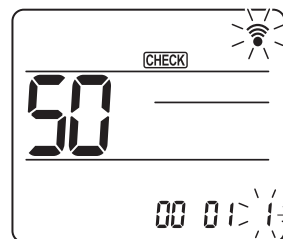

Fig. 6-17
(4) Selecting the setting number
Use the [UP] button to change the Setting number (C). (Fig. 6-17)
(5) To select multiple functions continuously
- Repeat select (3) and (4) to change multiple function settings continuously.
(6) Complete function selection